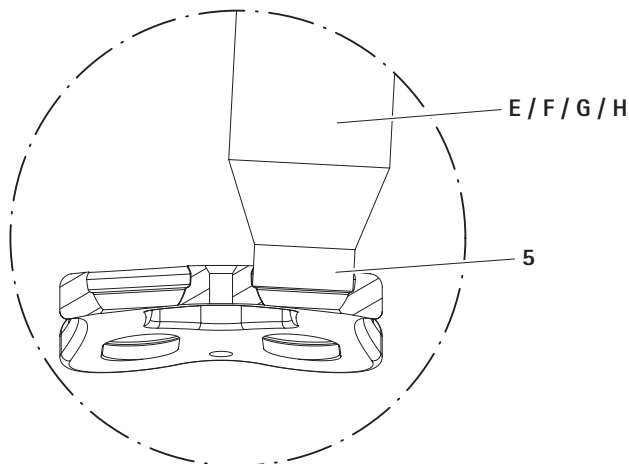

Fig. 14
- ▶ To implant the screw correctly, position the center punch/drill hole in the center of the hole or centered in the slot along the long axis of the Quintex® plate 1, see Fig. 14.